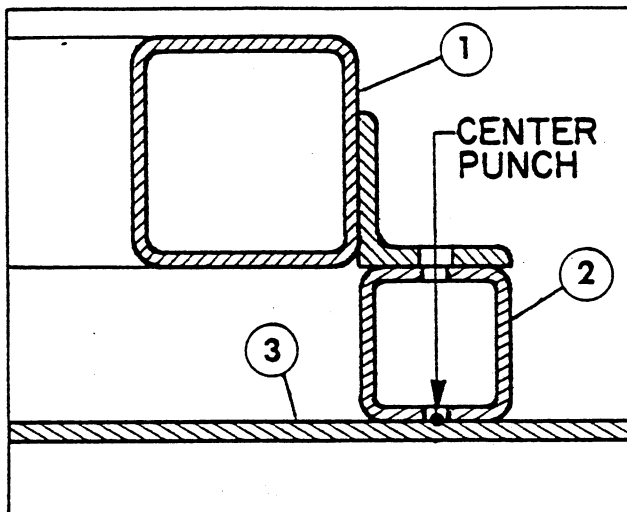

FIG. 11
4. Using the bolt hole as a template, center punch the vehicle bed and replace the bolt. Repeat the procedure at all six hole locations. See FIG. 11.